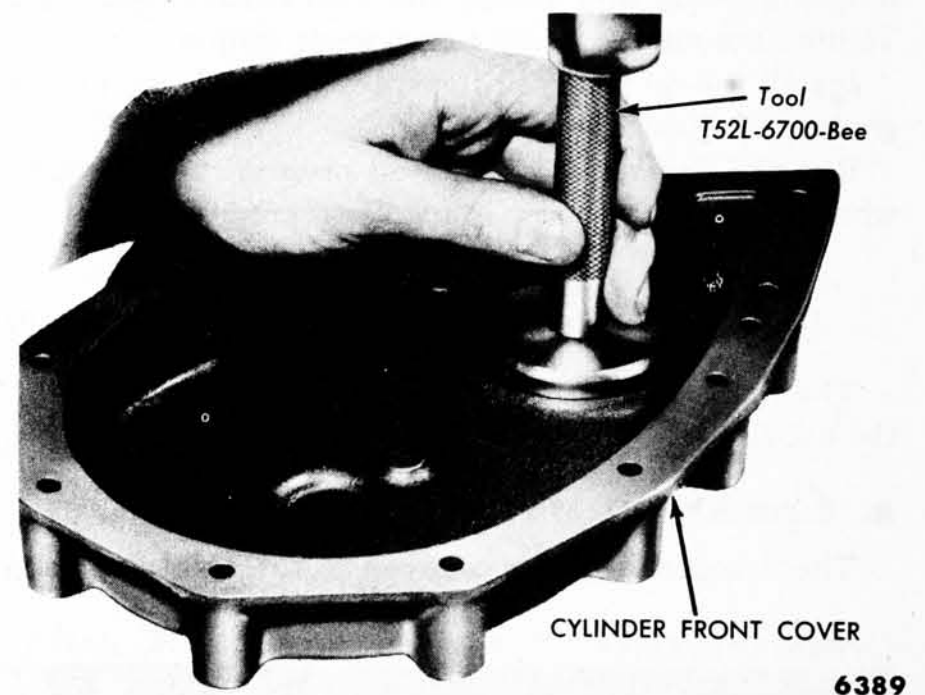

Fig. 16—Oil Seal Installation
(2) **OIL SEAL REPLACEMENT.** Drive out the old seal with a pin punch, then clean out the recess in the cover. Coat a new seal with grease, then install the seal with the tool shown in fig. 16. Drive the seal in until it is fully seated in the recess. Check the seal to be sure the spring did not come out during the installation.